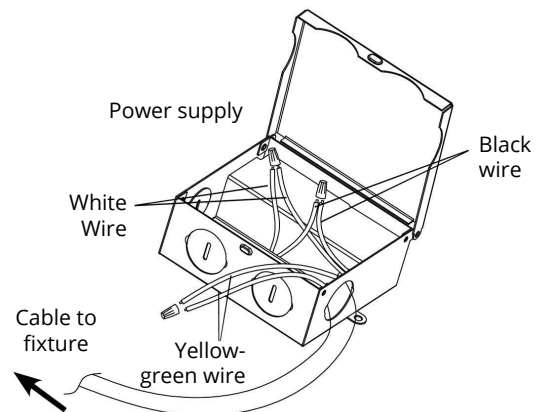

Fig.1
3. Using wire nuts, connect GREEN ground wire of cable to GREEN wire on box. Connect WHITE wire of cable to WHITE wire of box. Connect BLACK wire of cable to BLACK wire of box (see Fig.1)